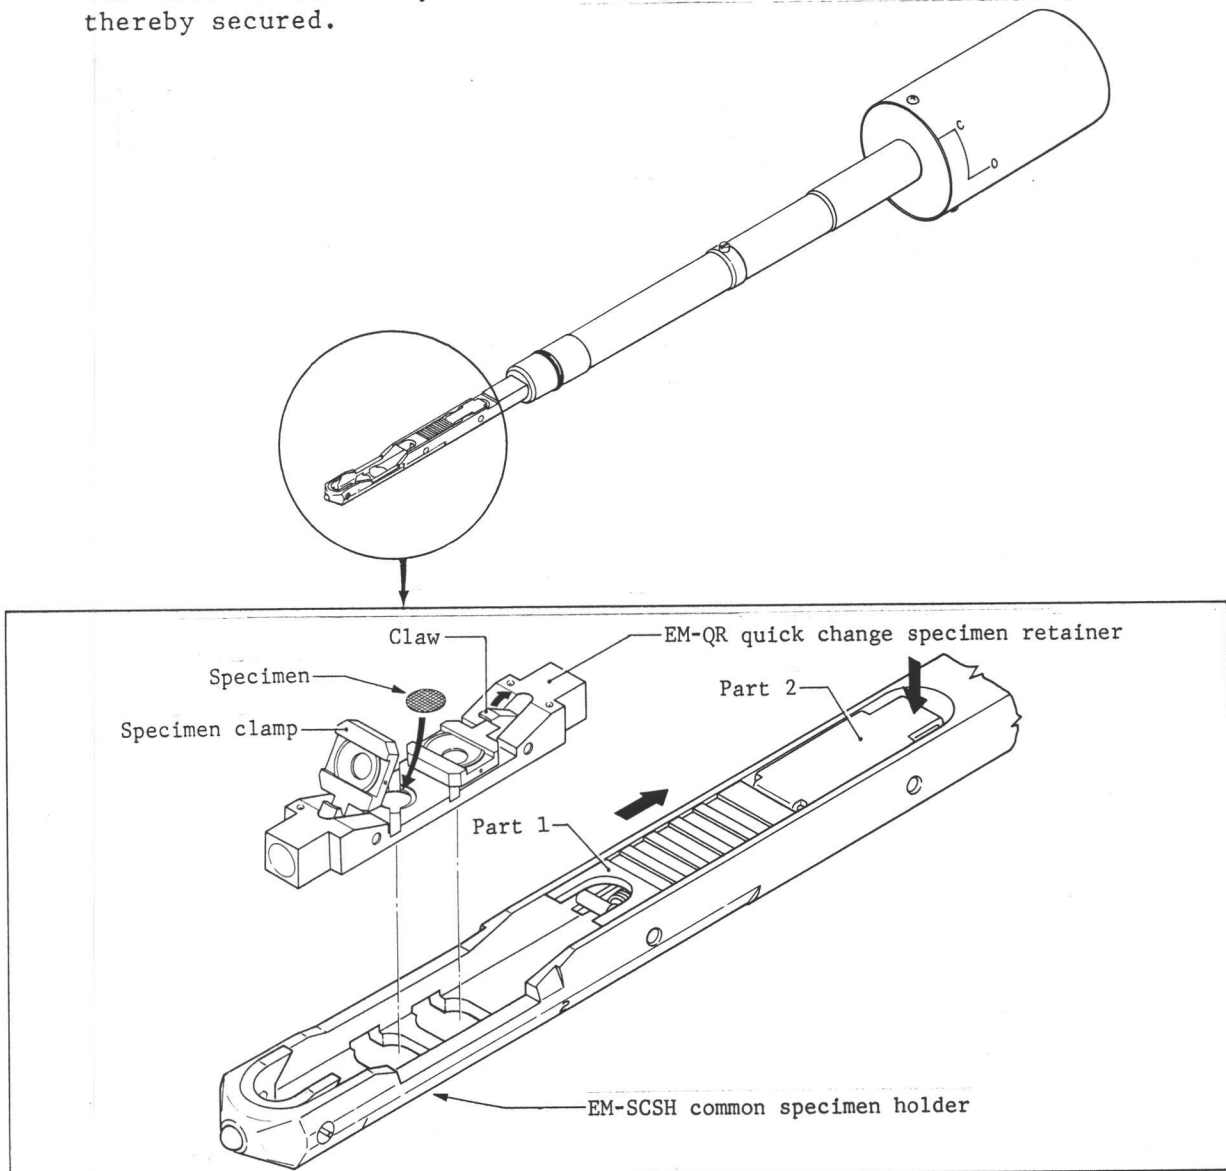

Fig. 4
1. With the specimen holder in the specimen holder storage box, move part 1 in the direction indicated by the arrow until it stops. Then remove the specimen retainer from the specimen holder (see Fig. 4).
2. Move the claw in the direction indicated by the arrow (Fig. 4) in order to raise the specimen clamp.
4. With the specimen retainer in the specimen holder, push part 2 in the direction indicated by the arrow (Fig. 4). The specimen retainer is thereby secured.